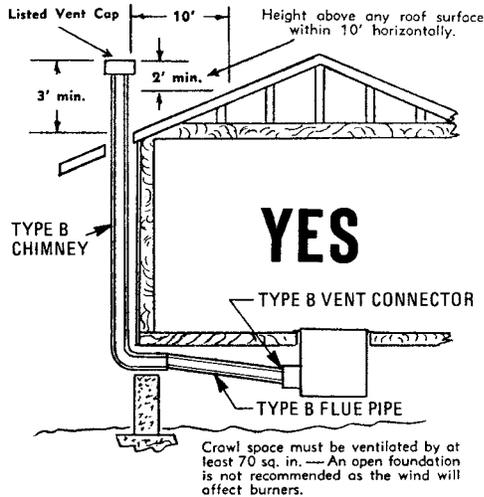

Figure 1
1. Flue pipe **MUST** always have an upward slope (1/4 inch per foot minimum). See Figure 1.
2. If there is no chimney, you will have to run a flue pipe from the furnace, up to and above the house roof. **See Figure 1.** Select a location permitting the most direct run. Try going up to the roof through a closet. Remember that the flue pipe must slope upwards at least 1/4 of an inch for each foot and you may find floor joints in our path, so it is important to plan the run carefully. **See Figure 8.**